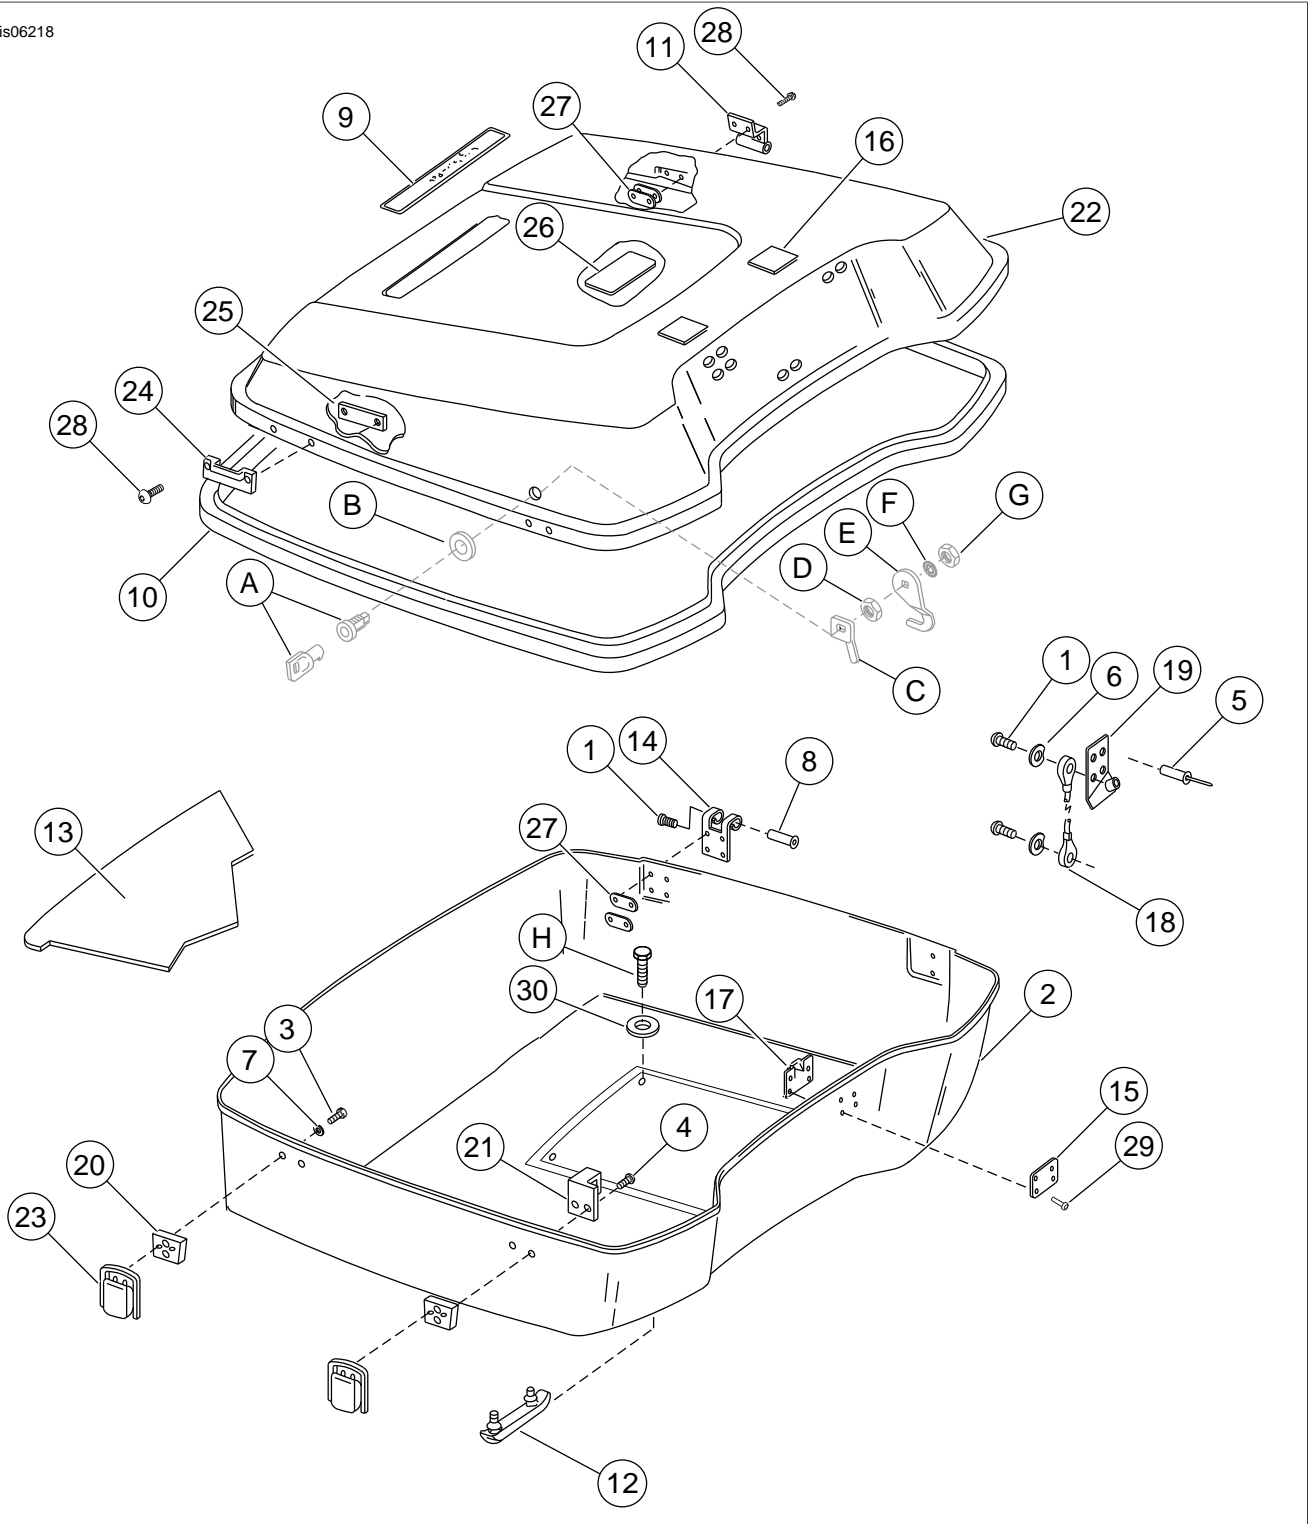

Figure 2. Service Parts: Razor Tour-Pak
See Figure 2 and Table 1.
2. See Figure 2. Insert the screws through the washers (30) and the newly-drilled mounting holes from the inside of the Razor-Pak. Tighten per the instructions in the Tour-Pak rack instruction sheet.